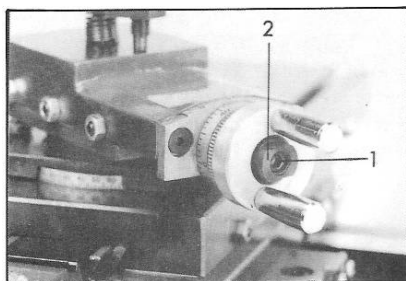

Fig 28
Loosen screw (1, Fig 28) and nut (2).